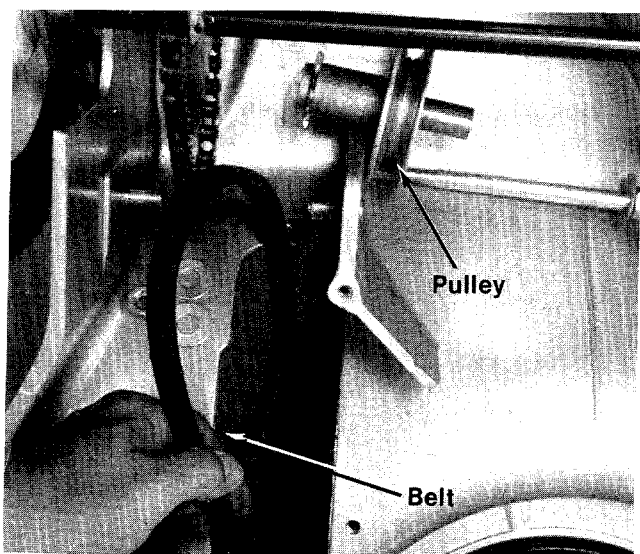

FIGURE 24
7. Remove the belt (See figure 24.)